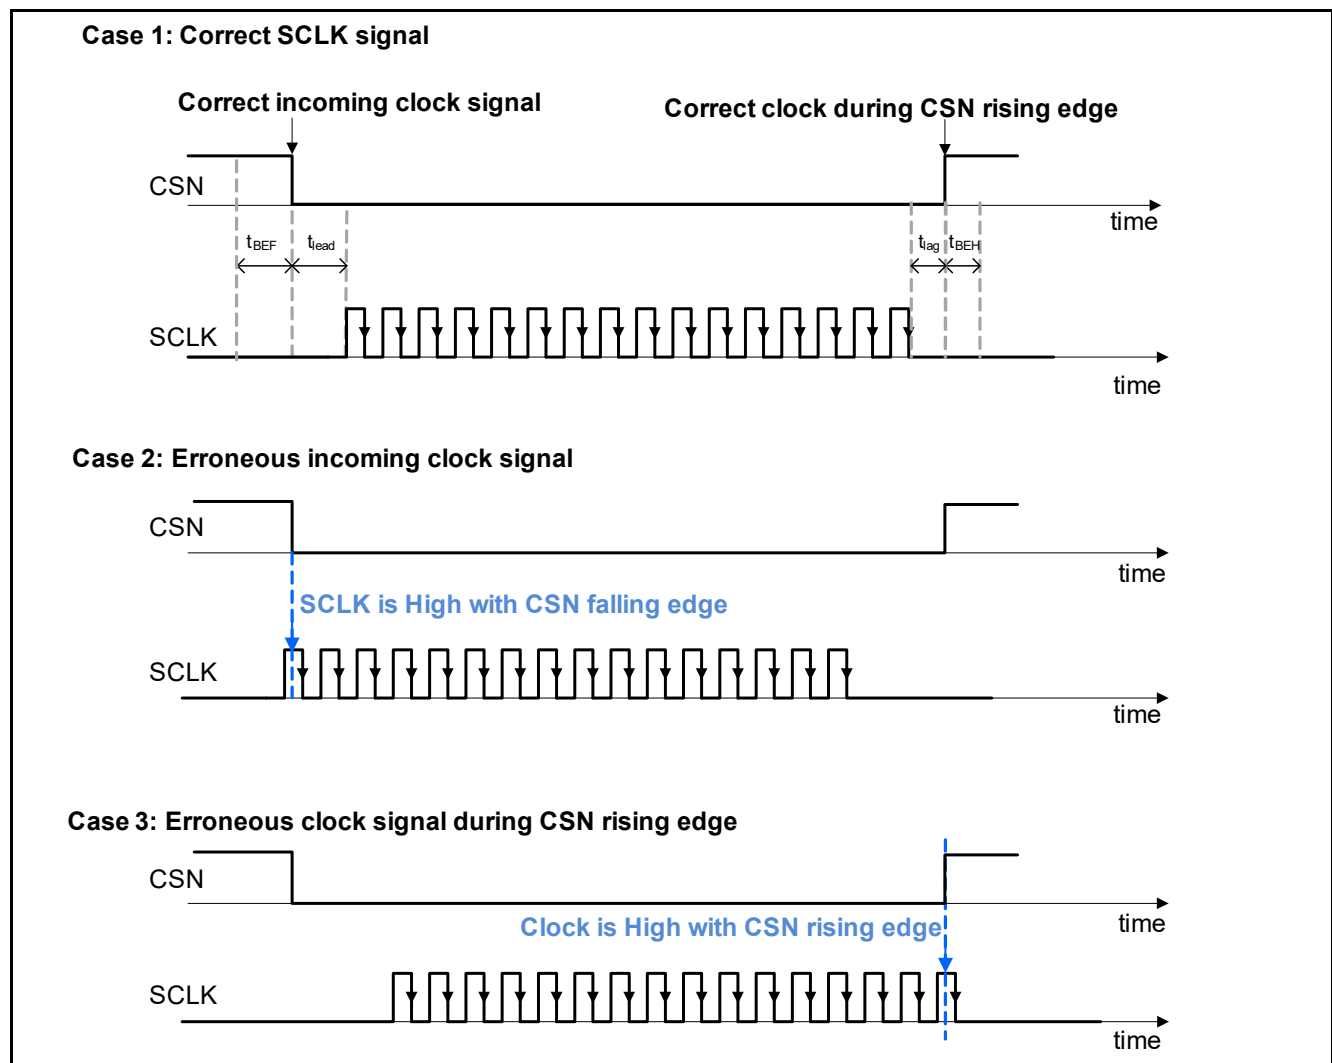

Figure 17 Clock Polarity Error
- a clock polarity error is detected (see Figure 17 Case 2 and Case 3): the incoming clock signal was High during CSN rising or falling edges.